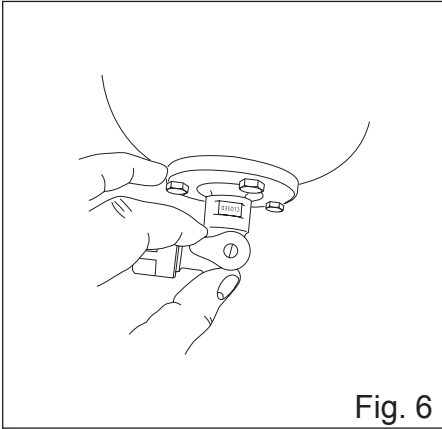

Fig. 6
6. Ensure that the isolating valve is in the open position then turn on the water supply and commission the system (Fig. 6).